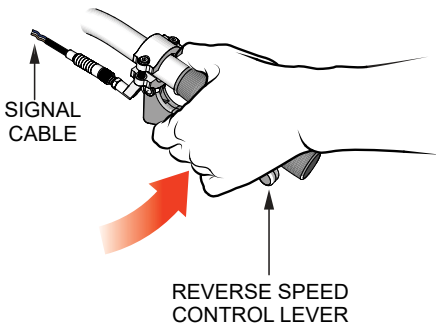

Figure 12. Reverse Control Lever Signal Cable
7. On the opposite side of the handle bar is the **reverse** control lever. Squeeze the **reverse** control lever (Figure 12) and hold down.